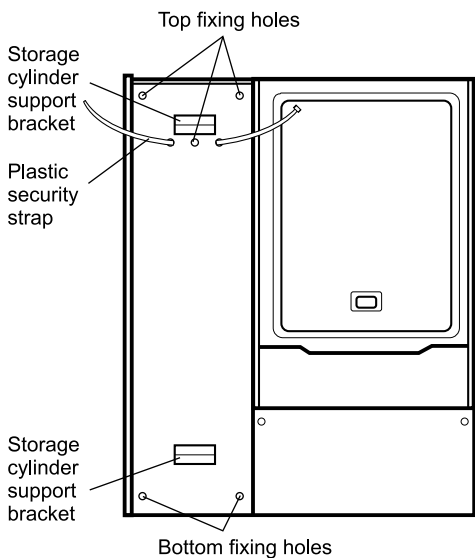

Fig. 7
#### 4.4 FIT THE COMBIMAX - Figs. 7 and 8
2. Drill five wall fixing holes (8 mm dia.) through the mounting frame (as shown in Fig. 7) and secure with the screws and plugs provided.
3. Hang the storage cylinder on the mounting frame, ensuring the top and bottom brackets on the store locate on the supports on the frame (see Fig. 7). Pass the plastic security strap around the cylinder and secure in position (see Figs. 7 and 8).